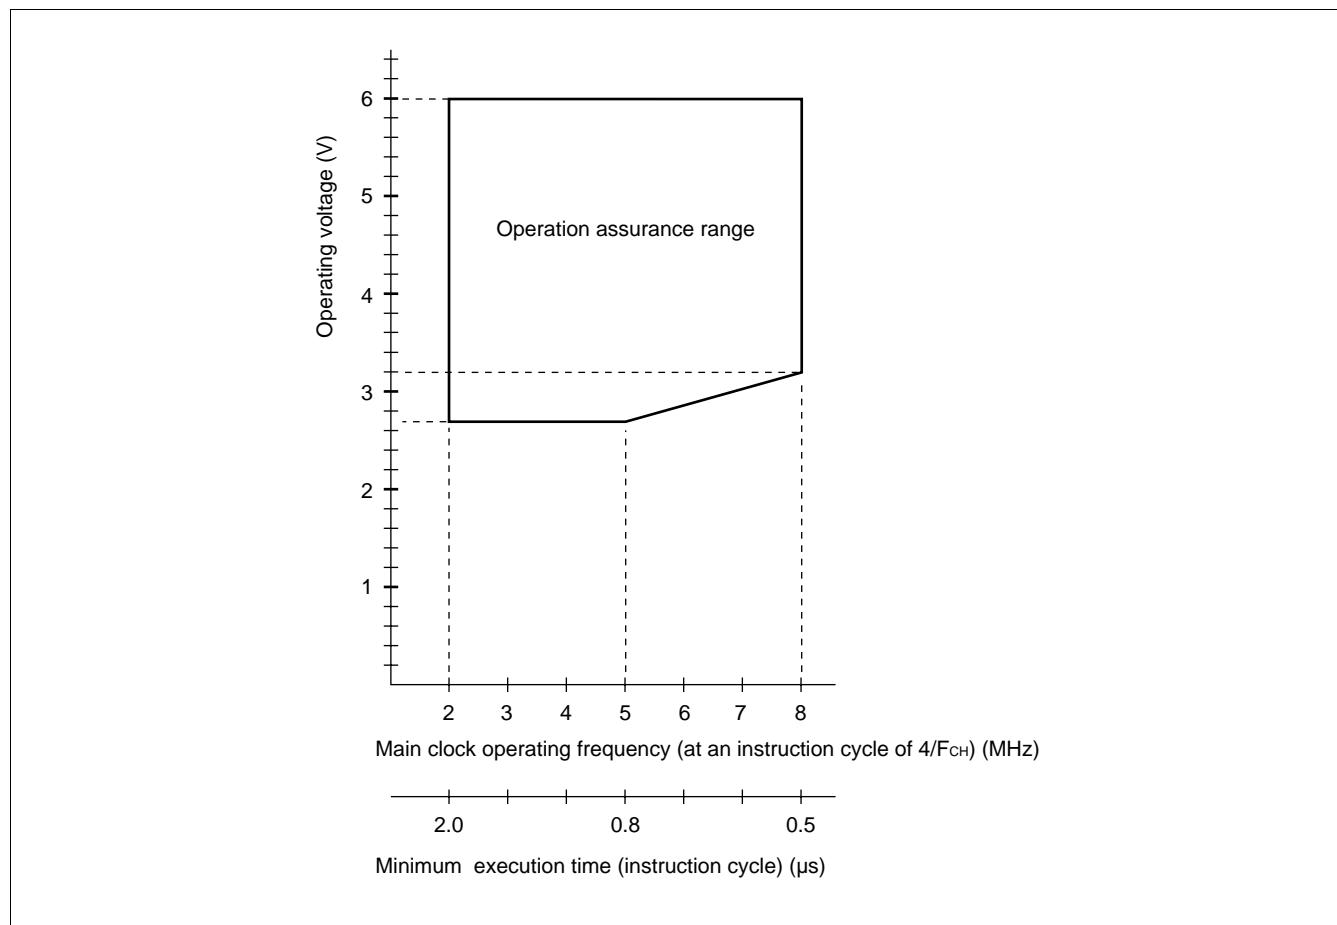

Figure 1 Operating Voltage vs. Main Clock Operating Frequency
* : These values vary with the operating frequency and analog assurance range. See Figure 1 and "5. A/D Converter Electrical Characteristics."
Figure 1 indicates the operating frequency of the external oscillator at an instruction cycle of 4/F_{CH}. Since the operating voltage range is dependent on the instruction cycle, see minimum execution time if the operating speed is switched using a gear.